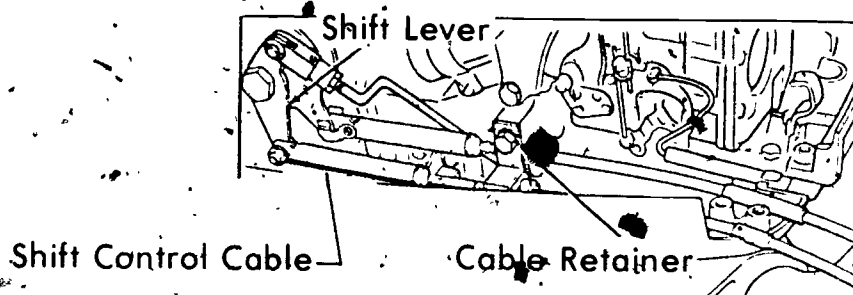

FIGURE 4
- G. Remove shift control cable from shift lever at engine (Figure 4)